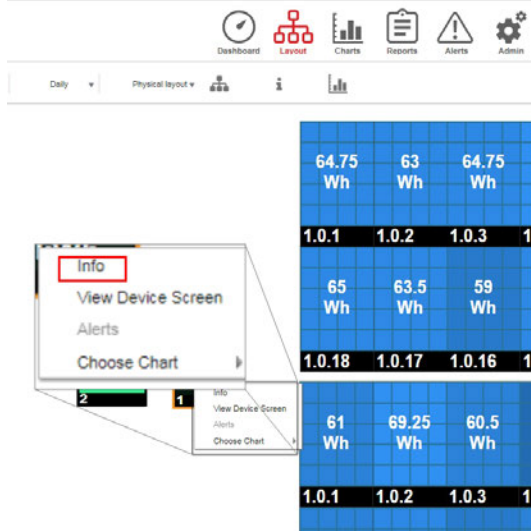
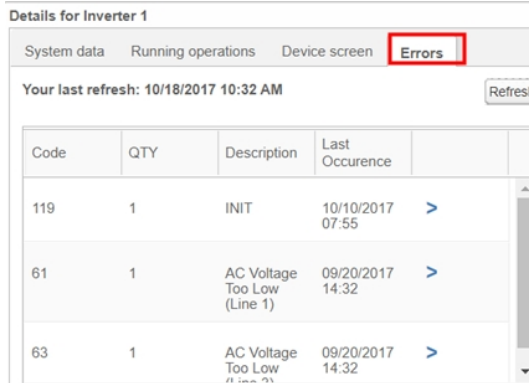

Figure 33: Inverter menu
Figure 34: Inverter details - Error list
- 2. Right-click the inverter and select **Info** from the menu (Figure 33). The inverter details window is displayed (Figure 34).